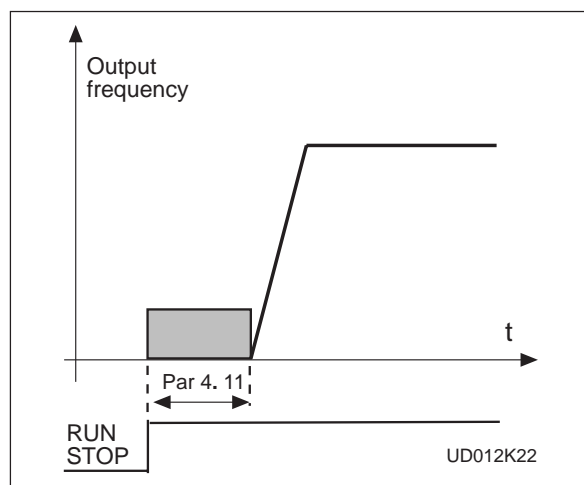

Figure 4.5-15 DC-braking time at start
- >0** DC-brake is active when the start command is given. This parameter defines the time before the brake is released. After the brake is released the output frequency increases according to the set start function parameter 4.6 and the acceleration parameters (1.3, 4.1 or 4.2, 4.3). See figure 4.5-15.